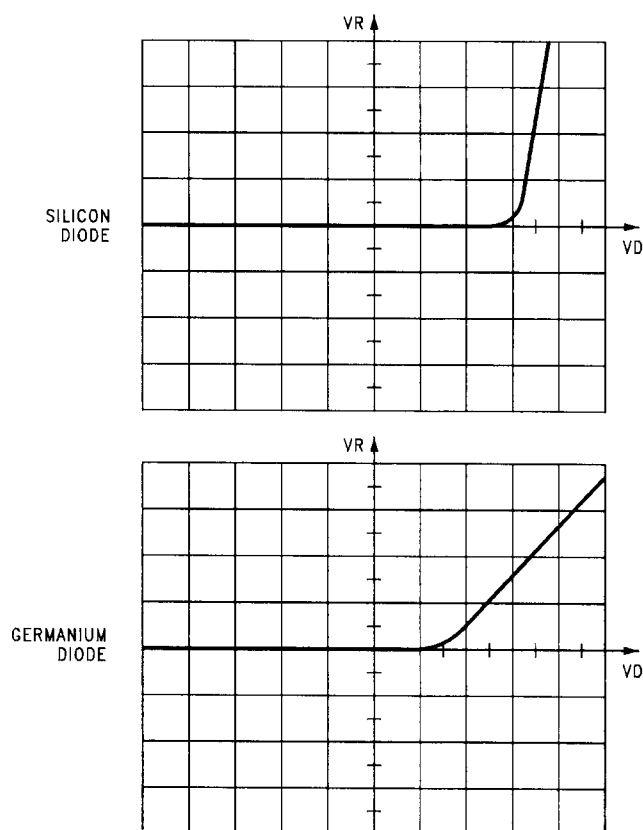

fig. B03.9
- the wave-forms displayed in the two cases should be similar to those in figure B03.9